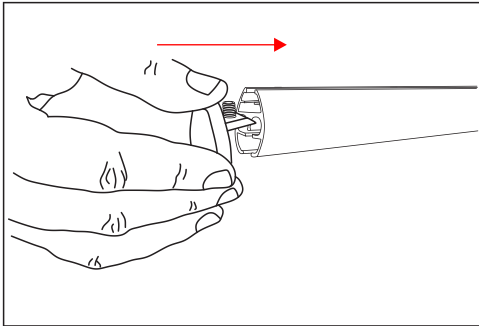

Fig. 21
7. Loosen the end cap's screw and insert one into each profile (one side only). Tighten the screw to secure the end caps in place (Fig.21).